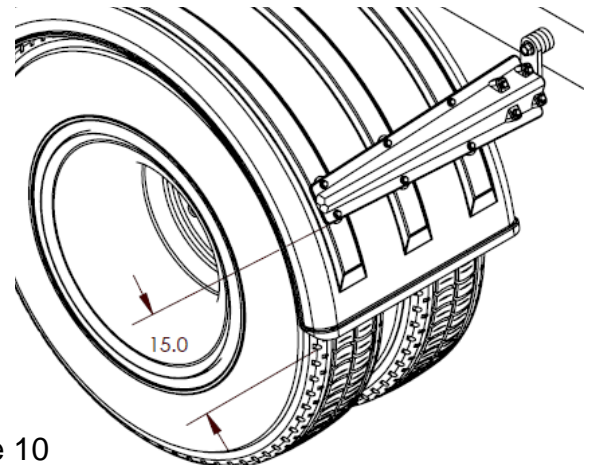

Figure 10
H. If possible, position the mounting brackets so they are located within 15" of the bottom of the fender. This protects against wind blowing the leading edge of the fender back into the tire (Figure 10).